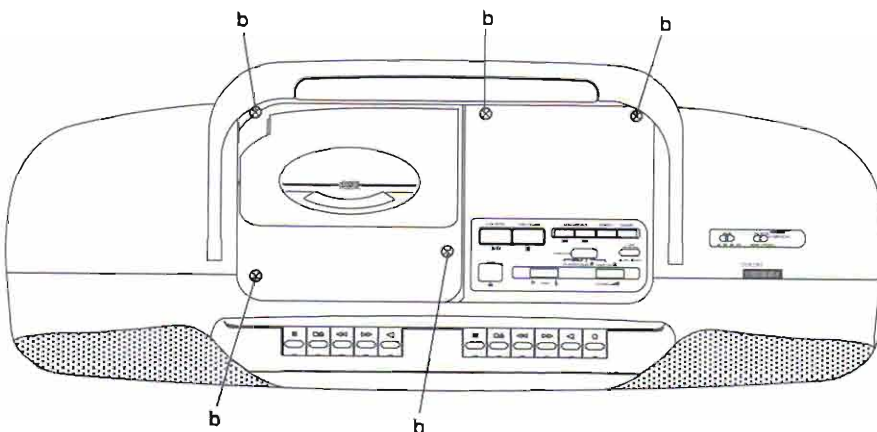

Abb. 2
2. Removing the Upper Part of the Cabinet (Fig. 2)